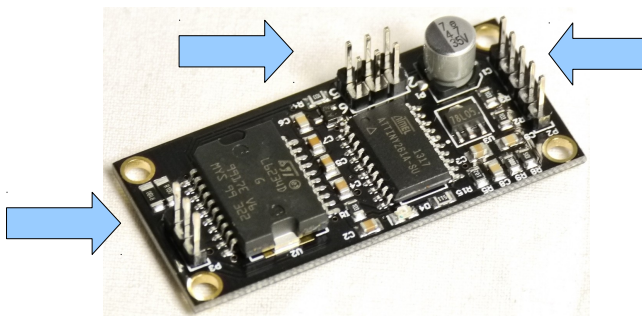

Abbildung 1
1. Solder the supplied pin headers on the board. See Figure 1: